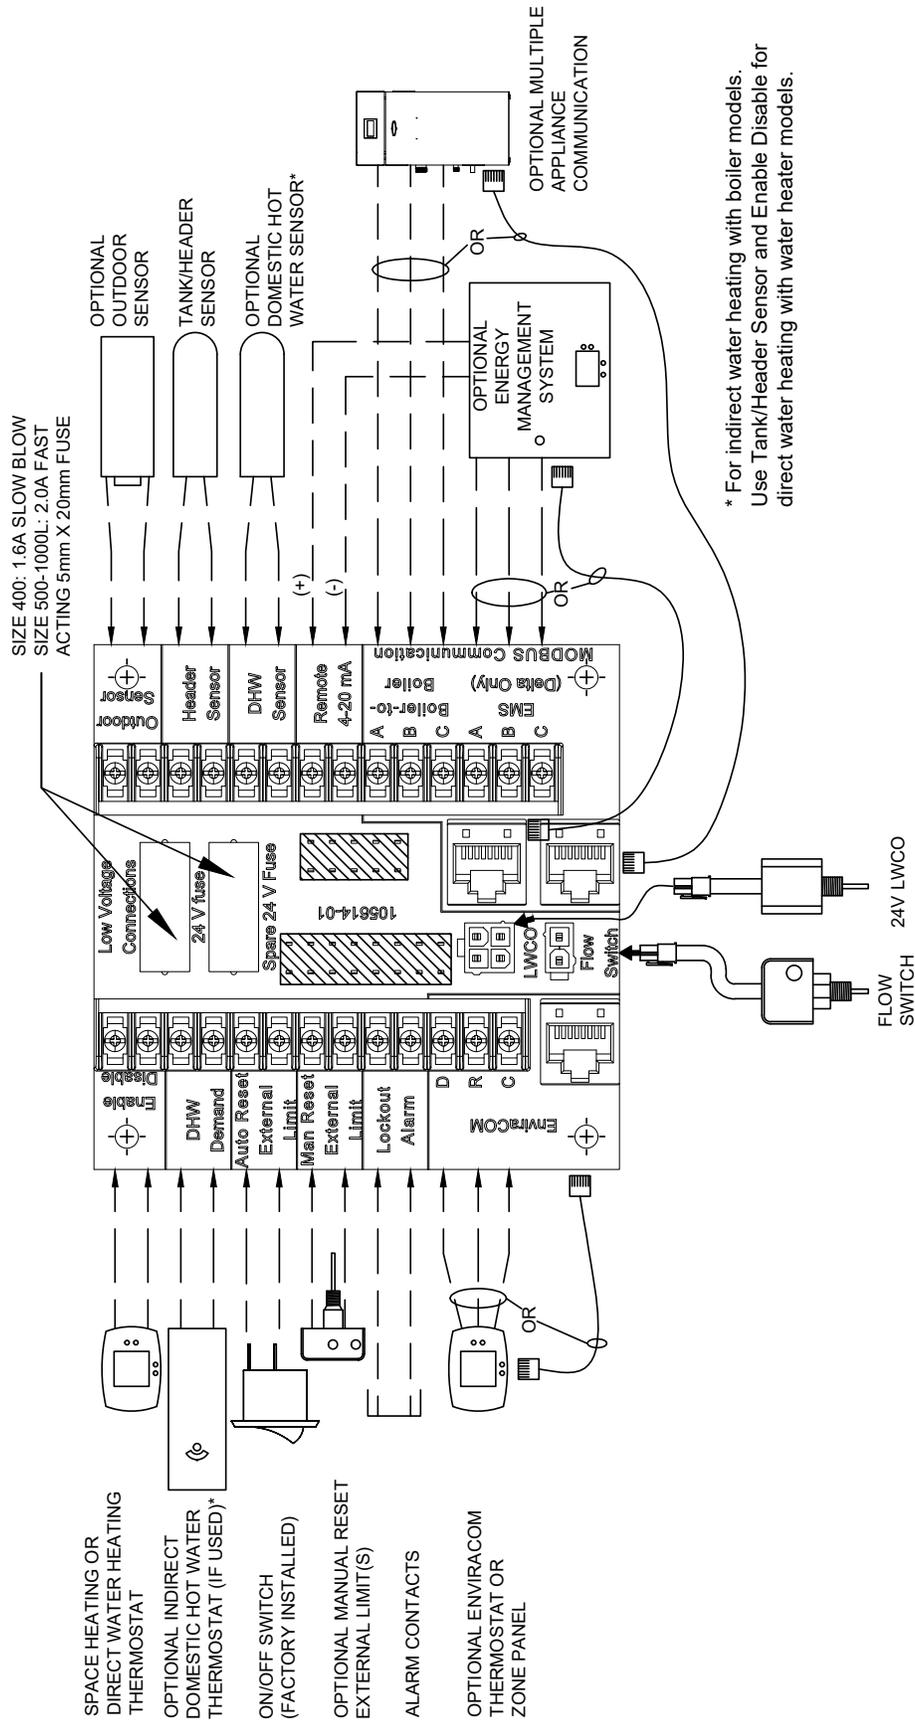

Figure 23: Low Voltage Connections PCB
- a. Low voltage PCB has connections for the header sensor, external limits, Alarm, 4-20 mA, etc. One 24V fuse and spare are provided. See Figure 23.